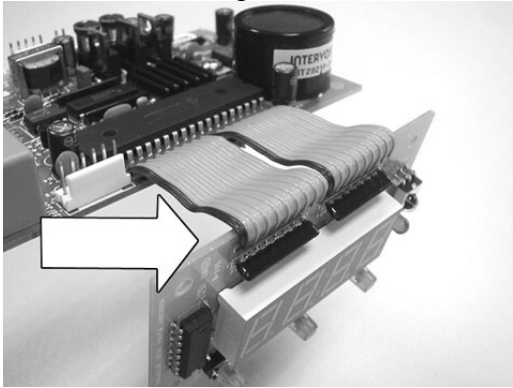

Figure 3
- 4.0 On the replacement PCB assembly break the two boards apart (shipped as one pcb assembly), fold the ribbon cable over the edge of the smaller board (Fig. 3). Press the board into place and insure that snaps have engaged.